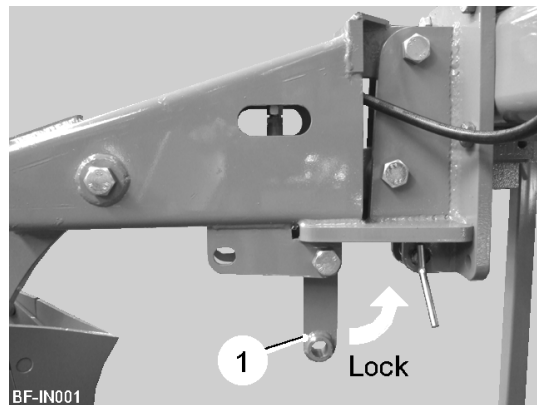

Fig. 12
If auto-reset legs are fitted, the leg locking arms (item 1, fig. 12) will need to be set into the working position. When disconnecting from the tractor, ensure the locking arms are locked to support the machine.